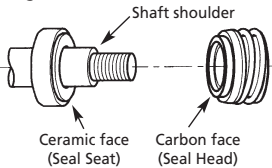

Figure 2
IMPORTANT: Be sure that shaft shoulder does not damage polished face (see figure 2).
5. Wet the inside rubber portion of new seal head with a light coating of soapy water. Slide head onto motor shaft with sealing surface facing seal seat (see figure 2).